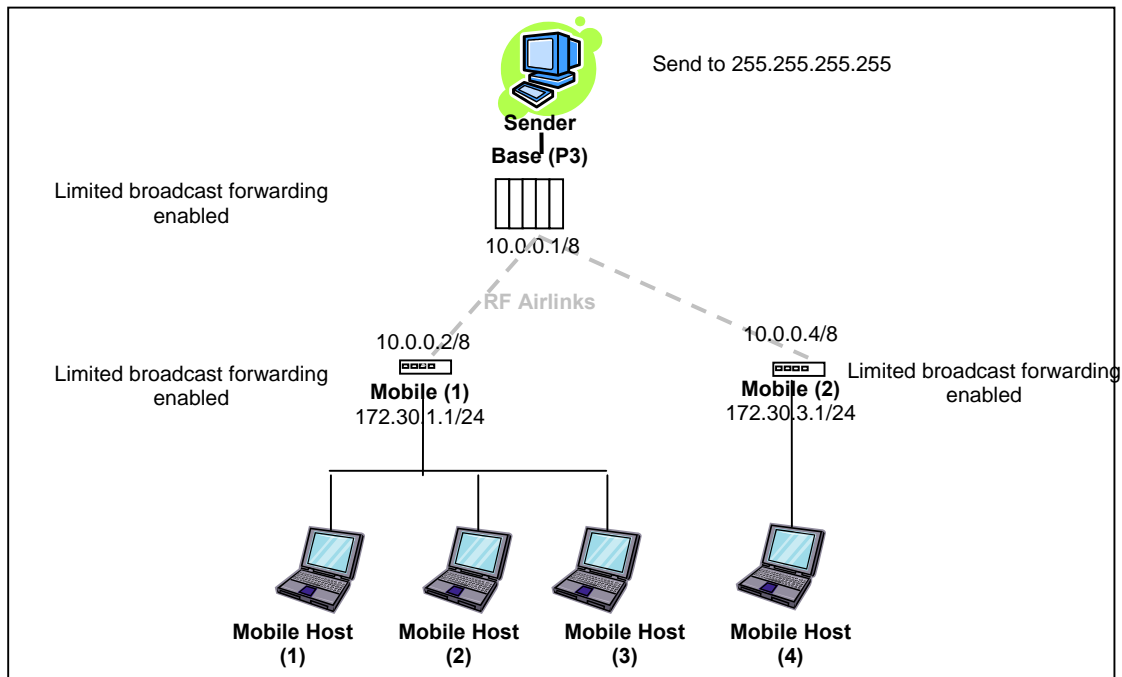

Figure 50 - Example of Directed broadcast forwarding enabled
In this example, (Figure 50) limited broadcast forwarding is enabled on the **Base** unit and on all **Mobile** units. **If Sender** wants to reach **Mobile Host (1)**, **Mobile Host (2)** and **Mobile Host (3)** and **Mobile Host (4)** with a single packet, he can send to destination address 255.255.255.255.